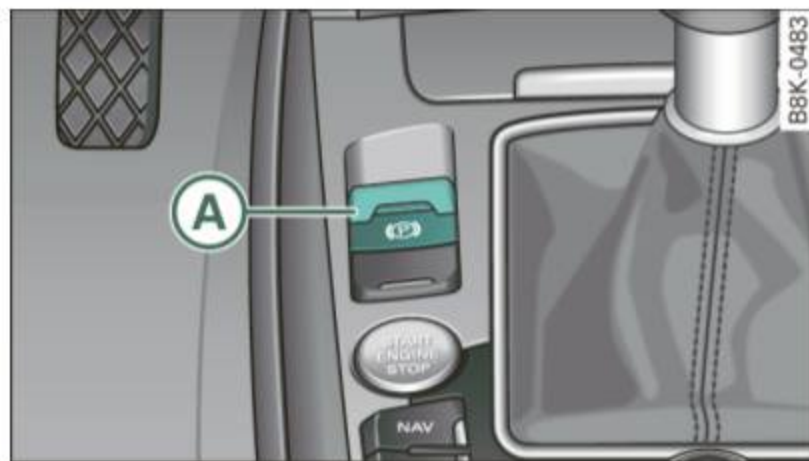

Fig. 120 Center console: Parking brake
- Pull on the switch **(A)** ⇒ fig. 120 to apply the parking brake. The indicator light in the switch illuminates.